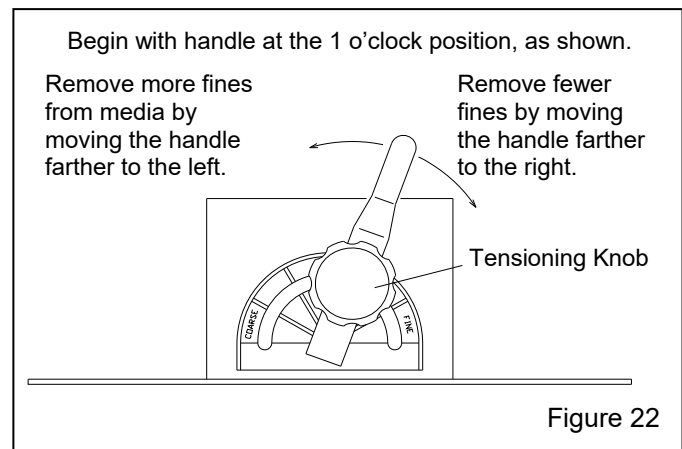

Figure 22
**5.4.1** The vortex cylinder is located atop the reclaimer where the flex hose connects. Adjustments are made by loosening the handle's tensioning knob and moving the handle to achieve the correct setting. When the correct setting is established, tighten the locking knob to prevent movement. Start with the lever slightly to the right (about 1 o'clock as shown in Figure 22) of the vertical position.